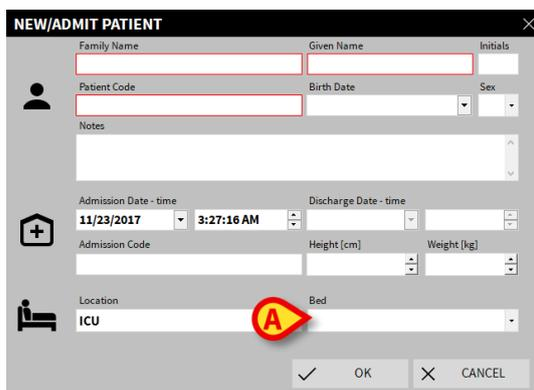

Fig 103
The **New/Admit Patient** window, containing the available patient data will be displayed (Fig 103).
- Specify the bed number in the field indicated in Fig 103 **A**